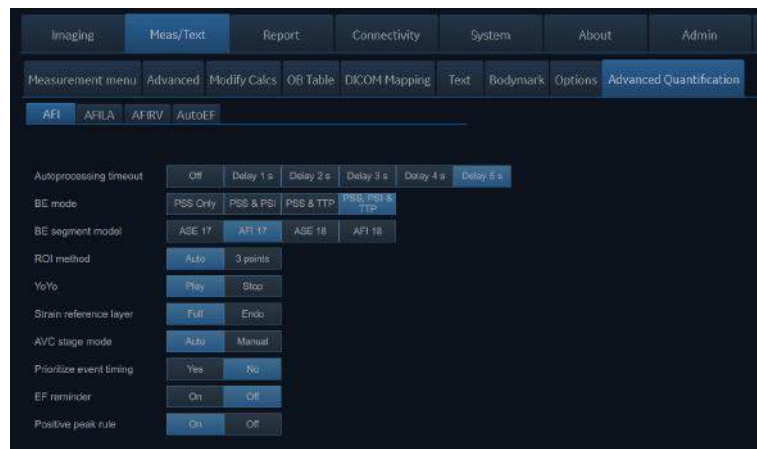

Figure 8-81. Advanced Quantification tab with configuration options for AFI
2. Click on the **Advanced Quantification** tab. The Advanced Quantification tab is shown, see Figure 8-81.